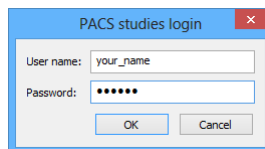

Figure 102 – PACS studies login dialog
1. Set the filter and click the **Search** button. You may be asked to provide your authorization (the valid user name and password) in the **PACS studies login** dialog (see Figure 102).